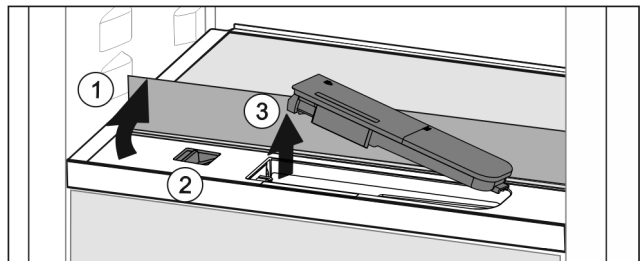

Fig. 87
- ▶ Lift the glass panel and fold towards the rear until it clicks into place Fig. 87 (1).
- ▶ Slide the slider Fig. 87 (2) to the left.
- ▶ Remove the water tank *Fig. 87 (3)*.